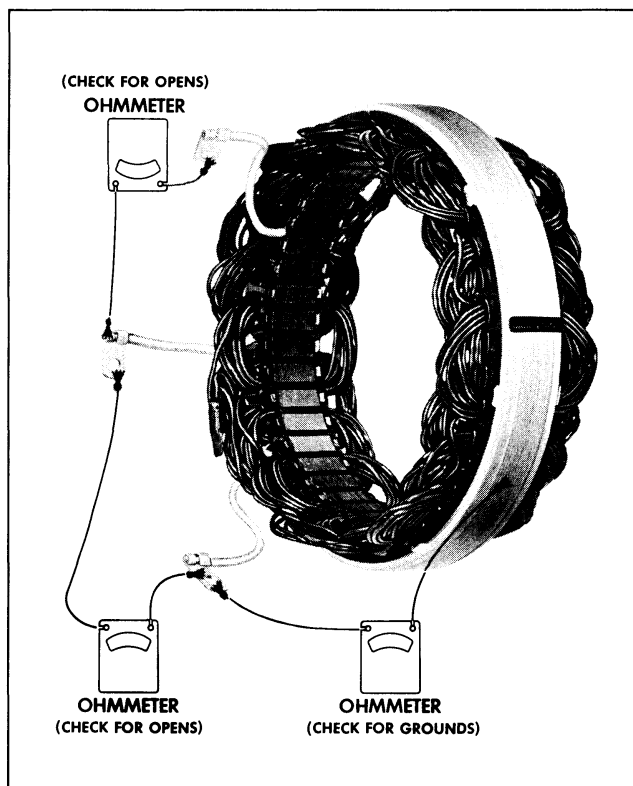

Fig. 11-18 Checking Stator
a. To check for grounded windings, connect lamp or ohmmeter from any stator lead to frame. If lamp lights or ohmmeter reading is low the stator is grounded (see Fig. 11-18).
b. To test for opens, successively connect 110 volt test lamp or an ohmmeter between stator leads. If lamp fails to light and if ohmmeter reading is high, there is an open in the stator windings (see Fig. 11-18).